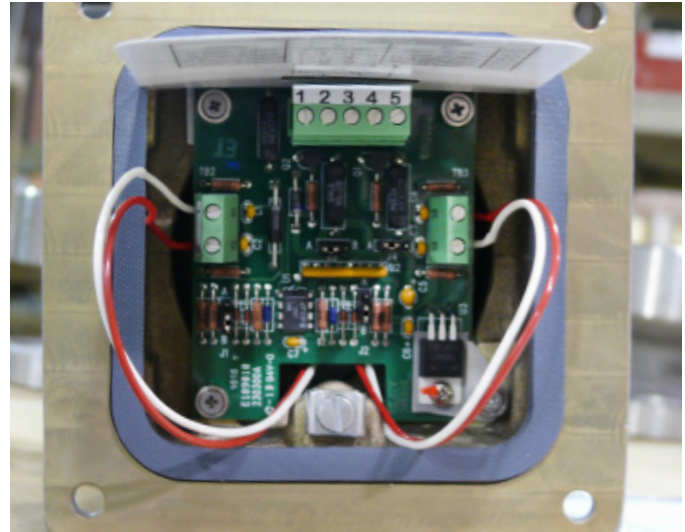

Figure 9-1 Circuit Board and Housing
3. Connect the instrument wiring, refer to Figures 9-1 and 9-2. Cable entry into the electrical enclosure is by two 3/4-14 NPT female threads. All flame paths must be protected from damage during work.